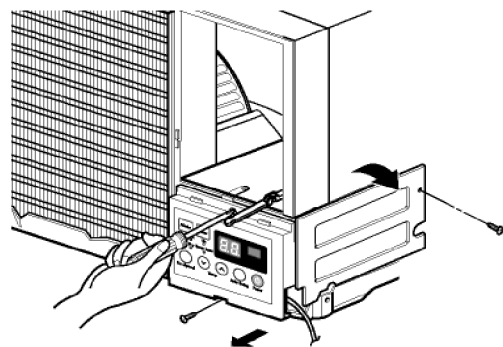

Figure 3
8. Remove the 2 screws which fasten the control box.(See Figure 3)
10. Re-install the components by referring to the removal procedure, above. (See Figure 3) (Refer to the circuit diagram found on page 24 in this manual or on the control box.)